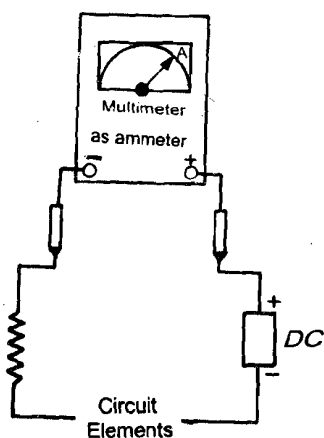

Fig.6.1: Direct current measurement in a circuit
4. Open the circuit in which the current is to be measured and connect test leads in series with the load through which current is to be measured (Fig.6.1). Keep the polarities as shown in the figure. In this case the multimeter functions like an ammeter.